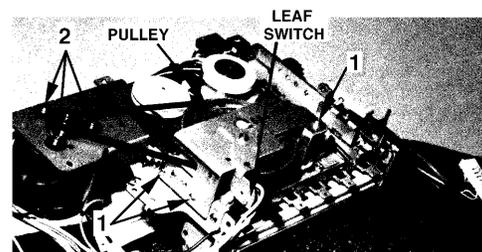

Figure 2. Cassette Deck View
See Figure 2
13.3 Remove the three screws (2) that secure the motor to the cassette deck. Remove the wires attached to the motor.
14. Cassette Motor Replacement See Figure 2